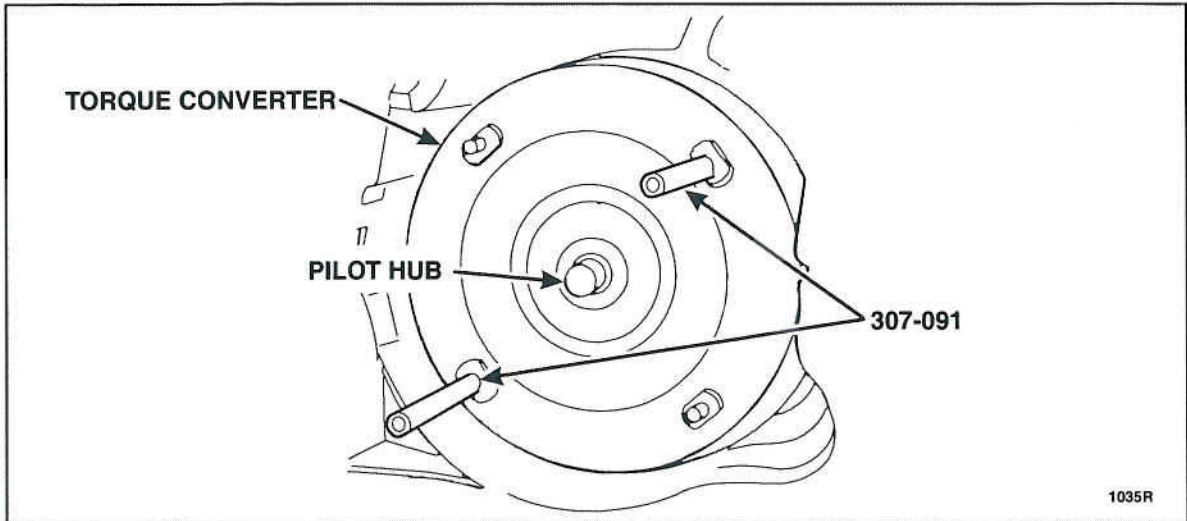

FIGURE 27
56. Using special tool 307-091 remove the torque converter. See Figure 27.
2. Using special tool 307-091 install the *new* torque converter. See Figure 27.
3. Apply multi-purpose grease to the torque converter pilot hub. See Figure 27.